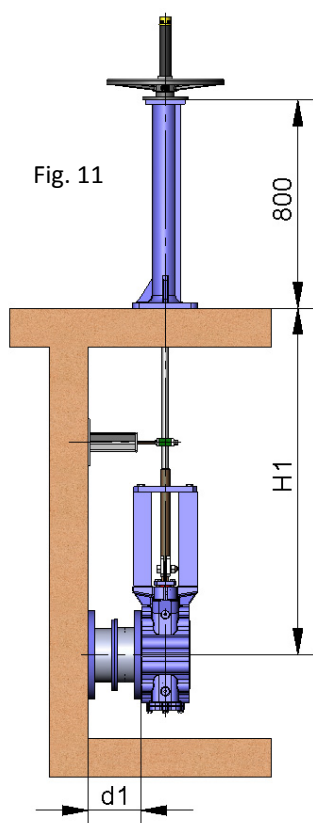

Fig. 11
- The standard floor stand is 800 mm high (Fig. 11). Other floor stand measurements available on request.